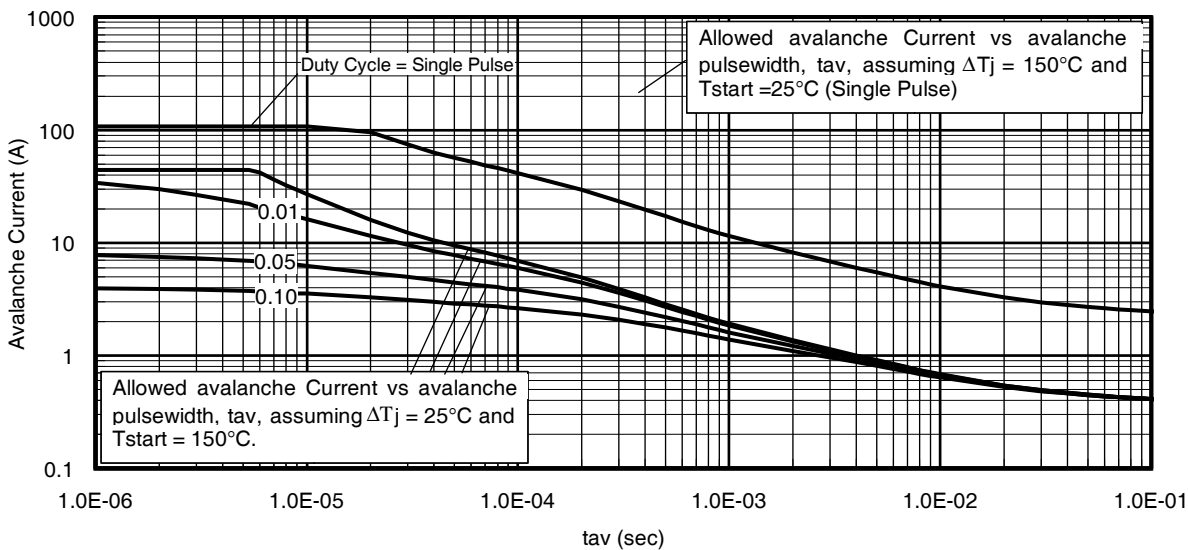

Fig 16. Typical Avalanche Current Vs. Pulsewidth
Notes on Repetitive Avalanche Curves , Figures 16, 17: (For further info, see AN-1005 at www.irf.com)
7. ΔT = Allowable rise in junction temperature, not to exceed T_{jmax} (assumed as 25°C in Figure 16, 17).